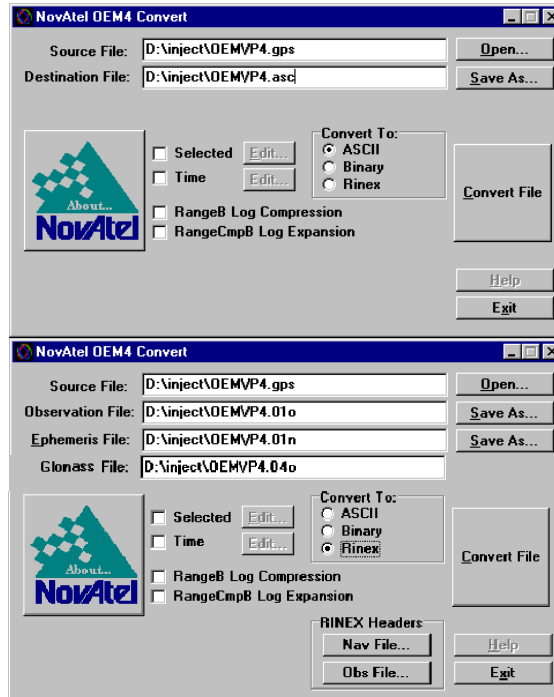

Figure 17: Convert4 Screen Examples
Convert4 is a 32-bit Windows application. It is shown in *Figure 17*. Convert4 will accept GPS file formats and convert them to ASCII, Binary or RINEX format. The application also allows the user to screen out particular logs by selecting the desired logs from the list of available logs. This feature is useful for screening particular logs out of large data files in either ASCII or Binary formats.
Selecting the RINEX field, see *Figure 17, Convert4 Screen Examples on page 59*, in the Convert4 To section causes the:
- a. Information from this log overrides data entered into the Receiver Number, Type and Version fields using the OBS file button of the RINEX Headers section, see *Figure 17 on page 59*.